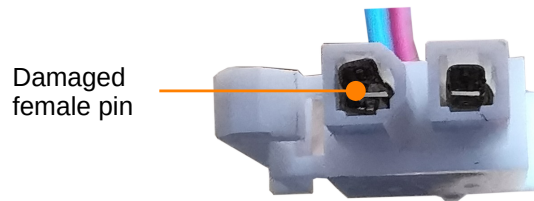

Figure 2: An example of damaged female pin inside the plastic plug.
2. Take pointy tweezers and gently compress together the female pins inside the plastic plug. Alternatively, you may also try to bend the deformed part of the pin back into the shape. Figure 2 shows an example. Do not try to remove the pins from the plastic. Squeeze them inside the plastic plug.